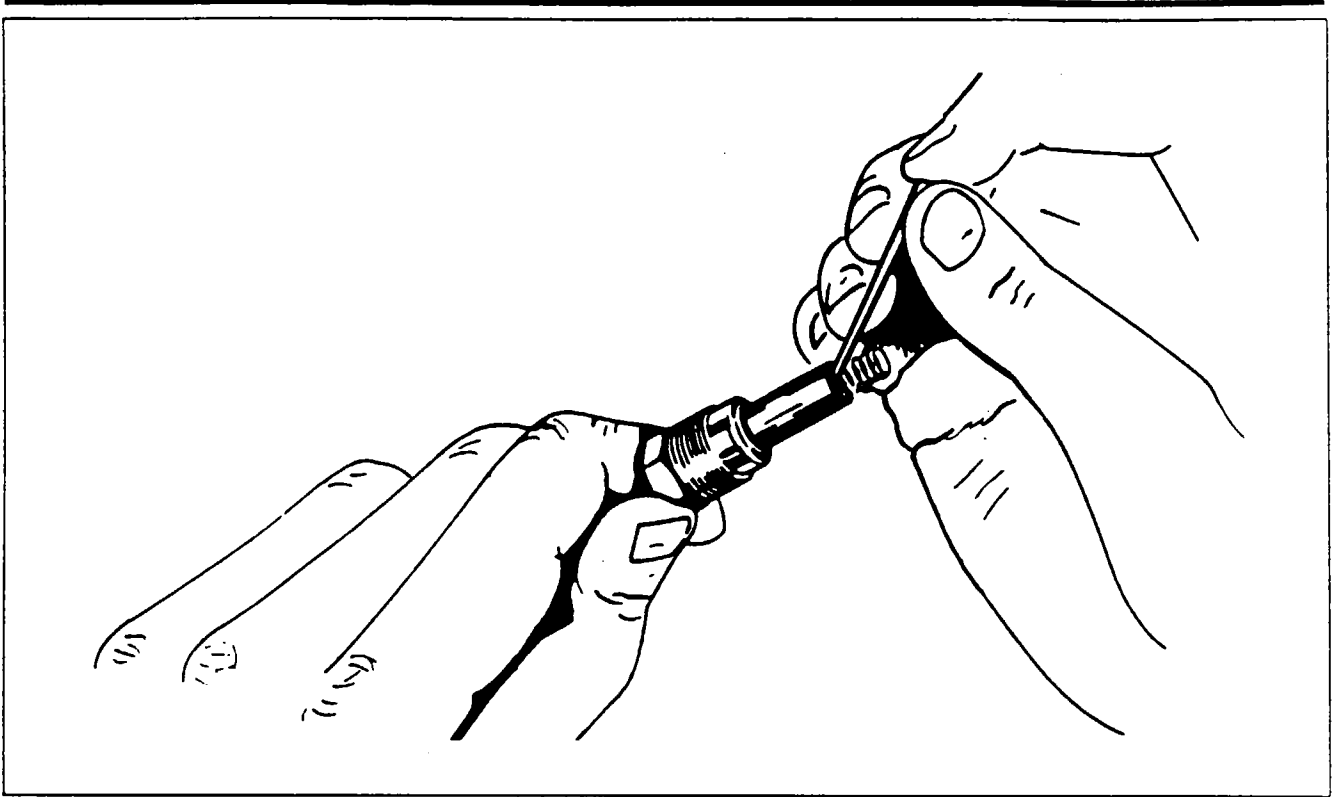

Figure 74-12. Removing Spring From Lead Assembly
1. Using a Bendix 11-7073 needle or a mechanical pencil with the lead retracted, hook the end of the contact spring as shown in Figure 74-12.